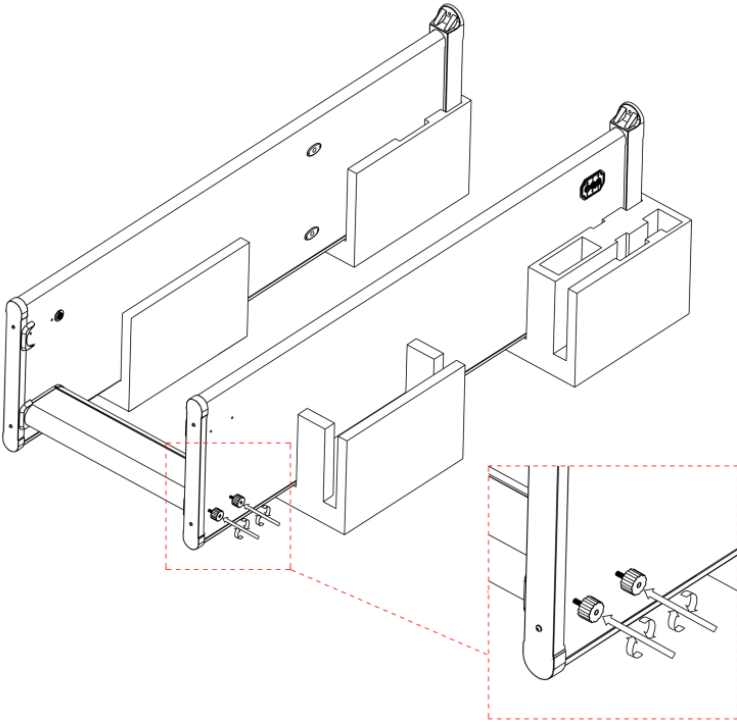

Figure 3-2
Step 2: Connect the rear beam with the left and right door panels with bolts, as shown in the figure 3-2 below (note that the bolts are not tightened at this time).